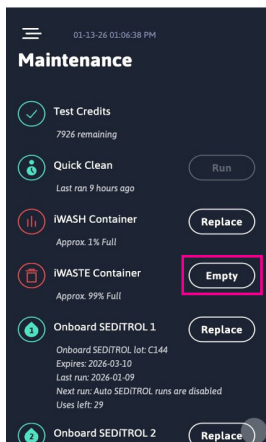

Figure 58
8. From the Maintenance Menu, press the iWASTE Container "Empty" button to reset the counter to 0% full (Figure 58).